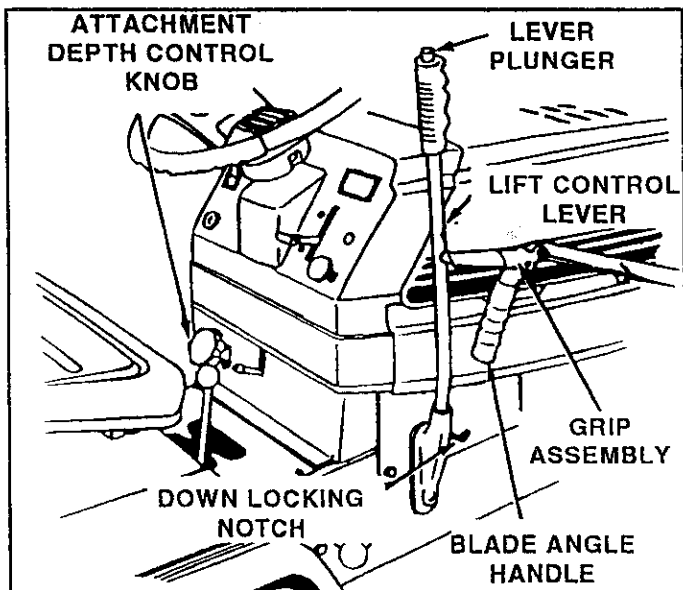

FIGURE 28
17. Move attachment lift lever all the way forward and lock in position. See figure 28 on page 10.
Located on right hand side of tractor. See figure 28. Move lever forward to lower dozer blade. Pull lever back to raise dozer blade. Pulling lever all the way back locks dozer blade in up position.
Located on top of lift control lever. See figure 28. Pull back on lift control lever and depress plunger to release.
Adjust lift control lever movement with attachment **DEPTH CONTROL KNOB** (see figure 28) for maximum movement between locking notches and to prevent lever from locking in the down lock notch. See figure 28.
Located on right hand side of tractor. See figure 28. **NOTE: Always raise dozer blade and lock in "up" position before moving angle control handle.** Depress grip assembly to release blade angle lock and push/pull angle control handle forward to move dozer blade angle to left, center, right and release grip to lock.